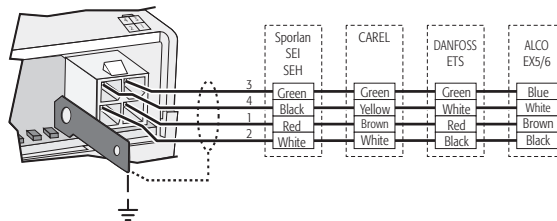

Fig. 3.16
- Valve: with reference to Fig. 3.16, connect the valve according to the type set for the "Valve type" parameter;